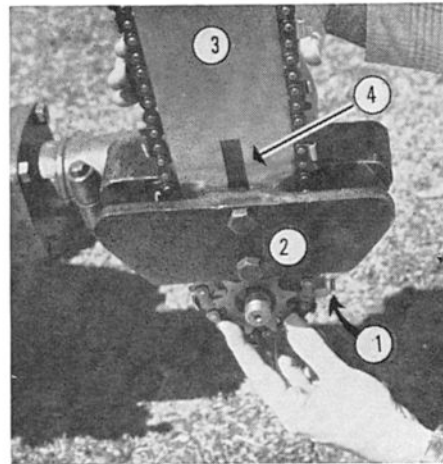

Figure 17
2. Loosen the Bracket Clamp bolt, 1 in Figure 17, until the Bracket, 2 in Figure 17, will slip onto the Gear Housing (it may be necessary to wedge the Bracket to make it fit). Line the lower edge of the Bracket even with the lower edge of the Housing—not with the fixed Collar. Tighten the Bracket Clamp Bolt to lock the Bracket in place.
3. Loosen the Swivel Adjustment Bolt (on the Drive Assembly) and rotate the Bracket until the Guide Bar, 3 in Figure 17, points straight up. Then tighten the Swivel Adjustment Bolt.
Turn the Chain Adjusting Screw, approximate location on other side of Guide shown by 4 in Figure 17, clockwise to increase Chain tension. When the Chain is under proper tension, it will be slightly loose on the Guide Bar, but not loose enough to permit it to come out of its slot when grasped firmly and pulled away strongly from the Guide Bar. Excessive tension will cause the Chain to "burn" the Guide Bar.